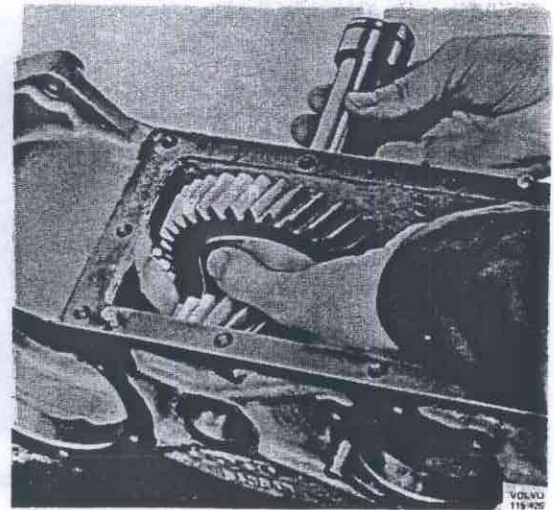
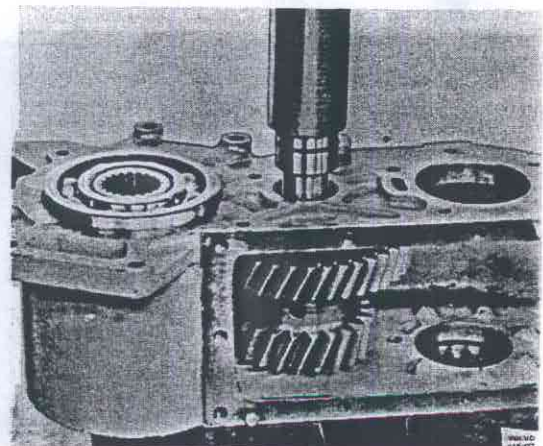

Fig. 43-187. Fitting intermediate gear shaft
Fig. 43-188. Pressing in intermediate gear shaft
2. Place the intermediate gear in the auxiliary gearbox, fit a new O-ring on the intermediate gear shaft and screw it tight in the guide sleeve, Fig. 43-187. Press in the shaft and remove the sleeve, Fig. 43-188.